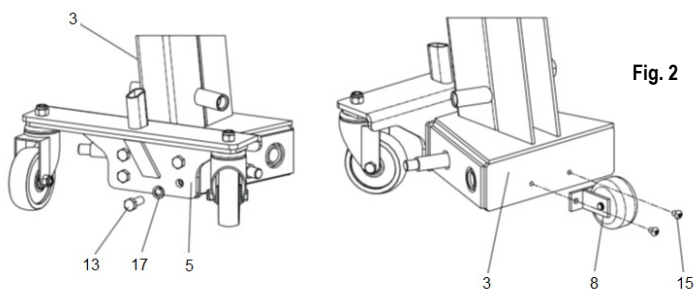

Fig. 2
1. Use the screw (13 - Fig. 2) and the elastic washer (17 - Fig. 2) to connect the rear wheel unit (5 - Fig. 2) to the frame (3 - Fig. 2). Use the screw (15 - Fig. 2) to fix the parts of the auxiliary wheel (8 - Fig. 2) to the frame (3 - Fig. 2), and lock the screws.